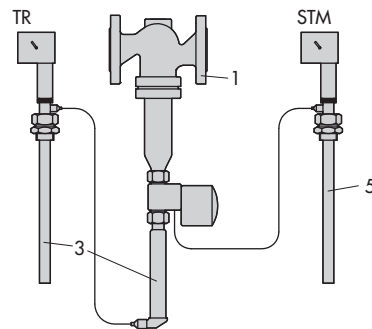

Fig. 6 · Temperature regulator and safety temperature monitor (TR/STM) with Type 2231 Control Thermostat and Type 2213 Safety Thermostat, Type 2114/2231/2213
Combination of temperature regulators (TR) with safety temperature monitors (STM) (Fig. 6)
Legend for Figs. 6 to 11